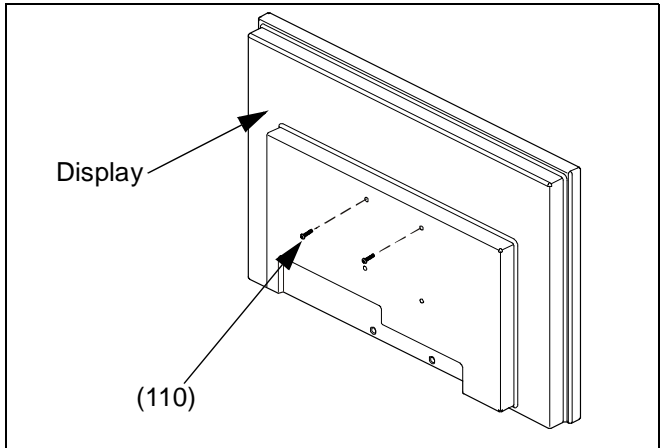

Figure 5: Prepare Display
1. Install two M4 x 12mm Phillips pan head screws (110) into two upper mounting holes in display back. (see Figure 5)